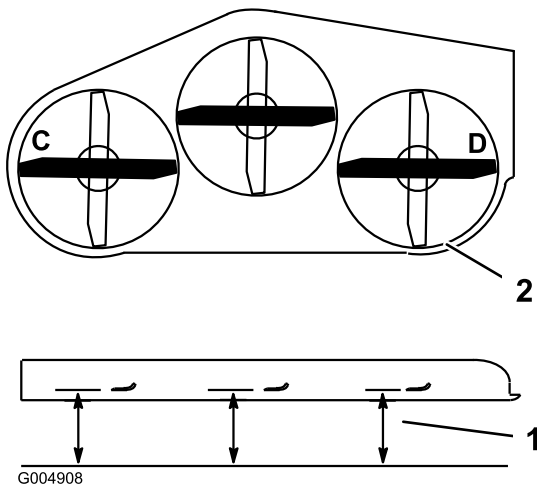
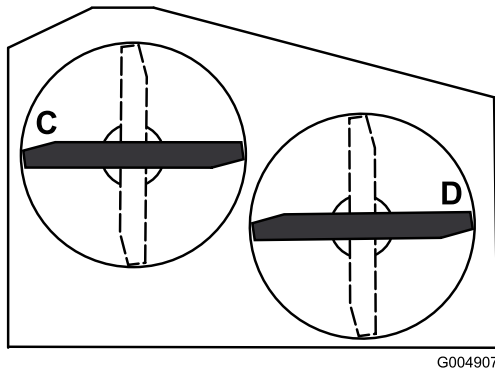

Figure 71
Figure 72
2. Position the blades side-to-side. Measure at **C** and **D** locations from a level surface to the cutting edge of blade tips (Figure 71). For 36 inch mower decks use Figure 72.